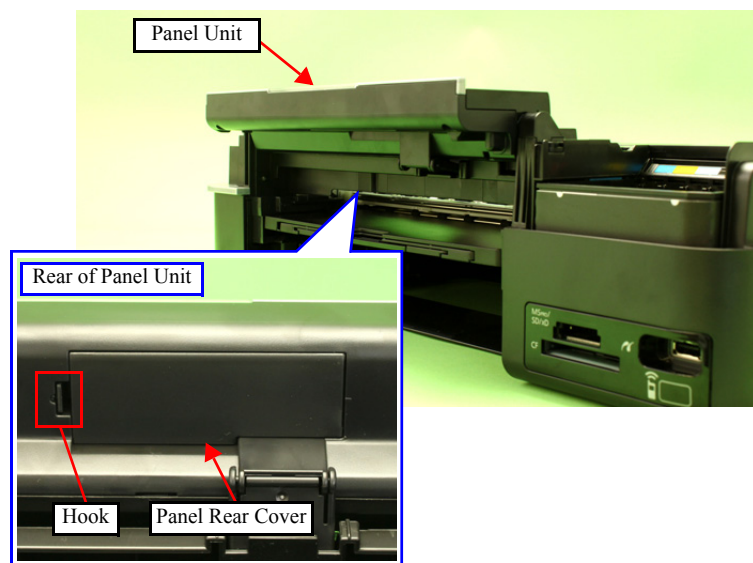

Figure 8-8. Removing the Upper Housing (1)
2. Open the Panel Unit. (See Fig. 8-8.)
2. Open the Panel Unit. (See Fig. 8-8 (p267).)